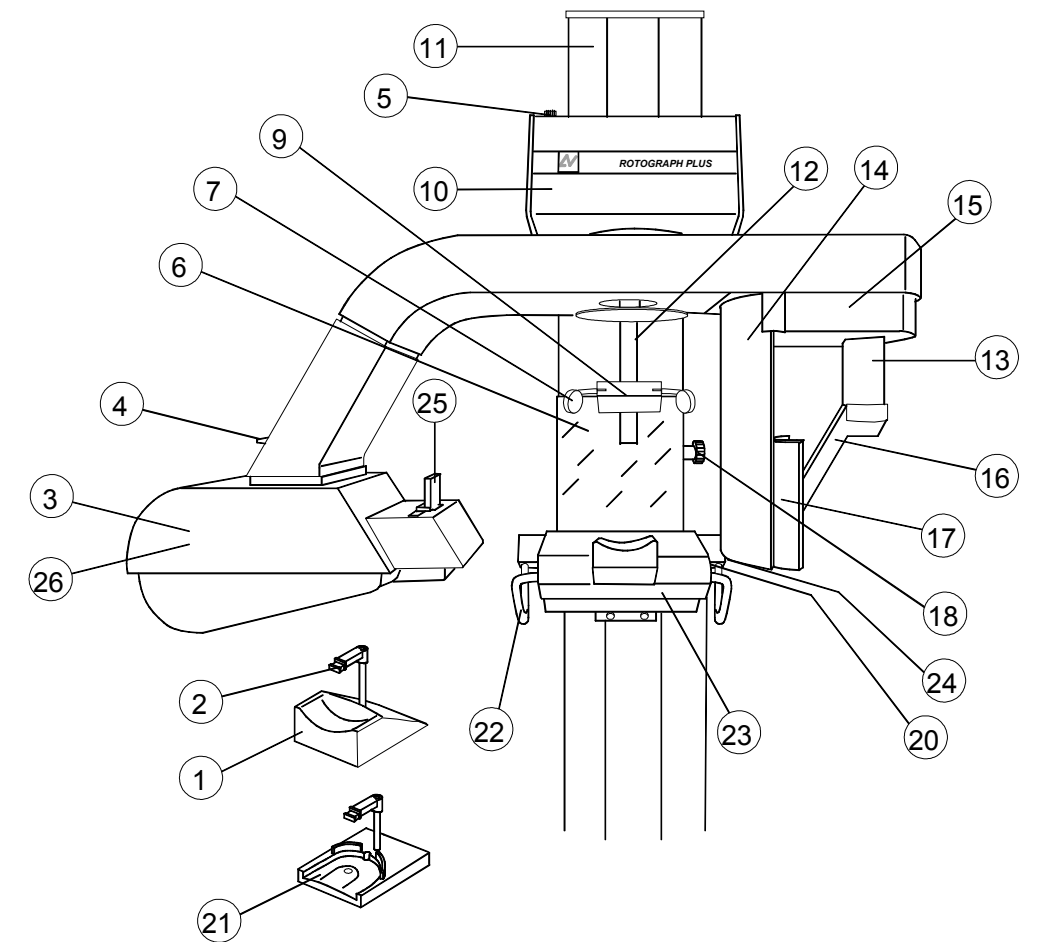
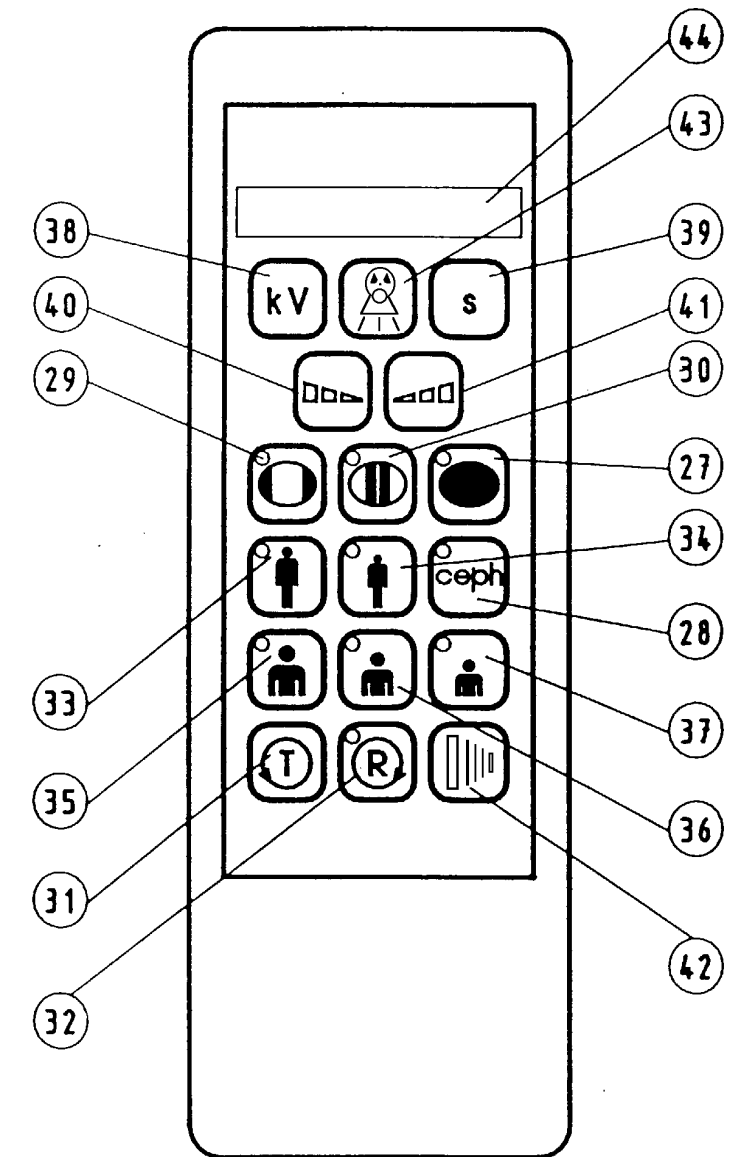

Figure 8: Stand
Figure 9: Remote control
6.6 Messages on display (refer to Figure 8 and Figure 9)
Remedy: verify the X-rays emission by checking light and acoustic signal (light **43** Figure 9), If the defect persist, check the development process. If still not corrected, call for **Technical Assistance**.